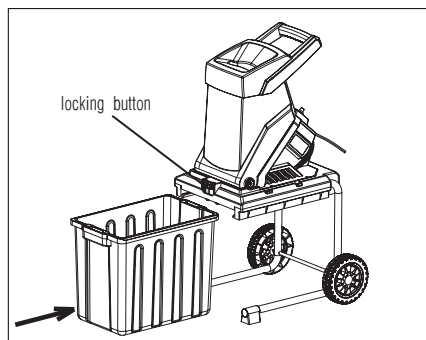

Fig. 3
1. Lift the locking button then attach the collection box into the frame as shown in Fig. 3.